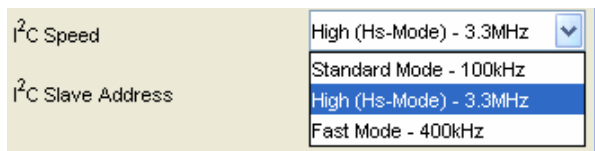

Figure 11: ADC121C021 Control Panel
- Select the desired I²C Speed from the pull-down menu (*Figure 11*).